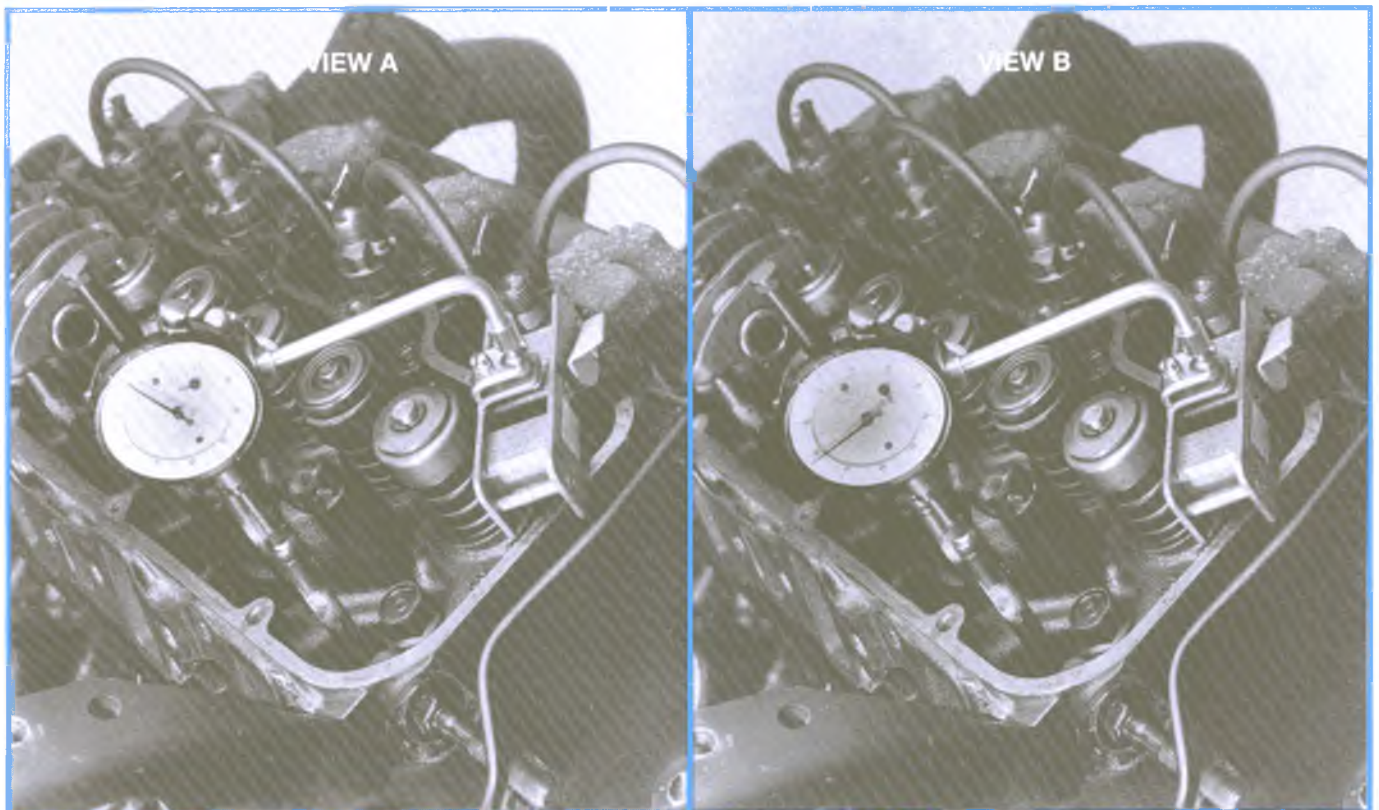

Figure 2-40, Camshaft Lobe Lift Check
3. Install a dial indicator so that its button rests on the top of the push rod for the first valve of the cylinder being checked (see Figure 2-40, view A).
6. Observe the amount of dial indicator travel (see Figure 2-40, view B):